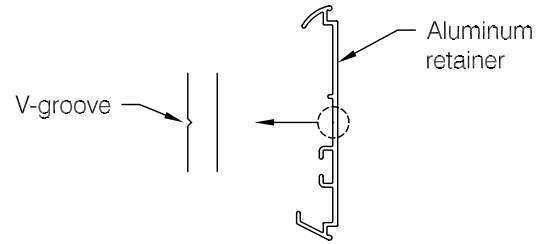

fig 2
- Step 3:** Pre-drill clearance holes for wall mounting in aluminum retainer along the V-Groove provided in the retainer, see fig 2 . Use a #15 (.180") bit for #8 fastener or a #7 (.201") bit for #10 and 3/16" fasteners. Space holes at 32" on center. Adjust spacing to accommodate studs as necessary. Do not pre-drill at locations that will interfere with installation of molded accessories.